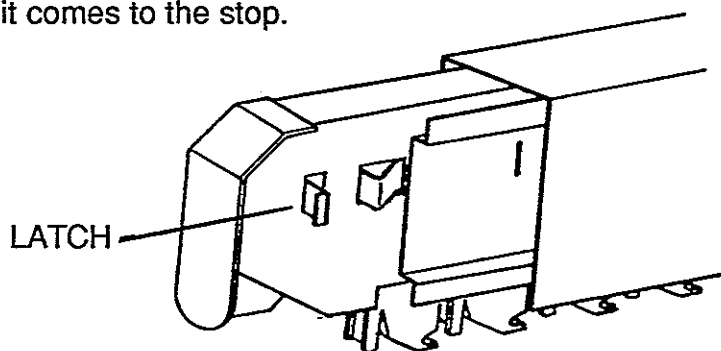

FIGURE 1
1. To load, release the latch on each dispenser as shown in Figure 1 and pull the inside portion of the arm out until it comes to the stop.